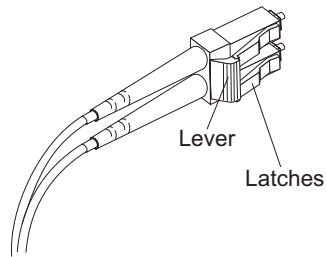

Figure 32. LC-LC Fibre Channel cable lever and latches
1. On the end of the LC-LC cable that connects into the SFP module or host bus adapter, press down and hold the lever to release the latches, as shown in Figure 32.